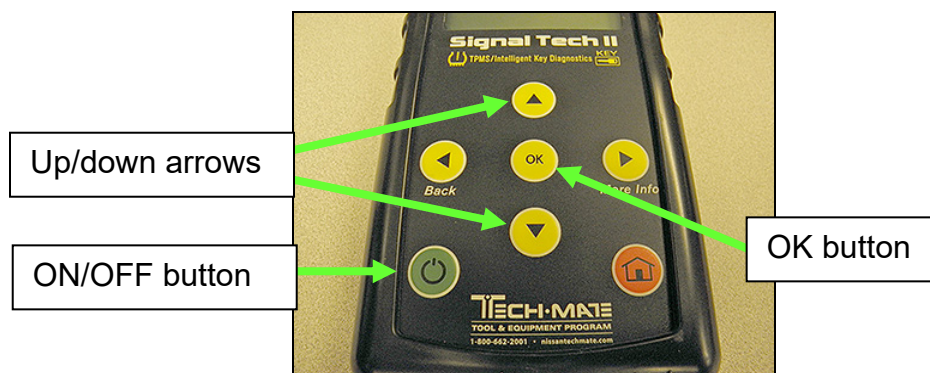

Figure 1
1. Turn ON the Signal Tech-II (see Figure 1 on page 1).
NOTE: This procedure will refer to the yellow up/down arrows and OK button on the Signal Tech-II key pad. Refer to Figure 1 on page 1 as needed.